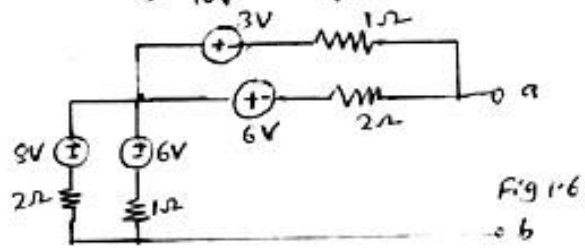

Fig 1.6
10. Using source transformation technique, reduce the network given between the terminals AB to a single voltage source network for fig.1.6.